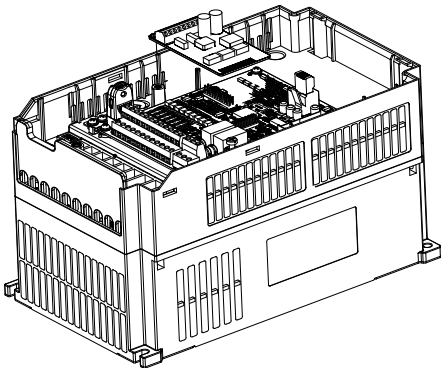

Fig.C-1 PG card installation
- 1) Follow Figure C-1 to loading PG card